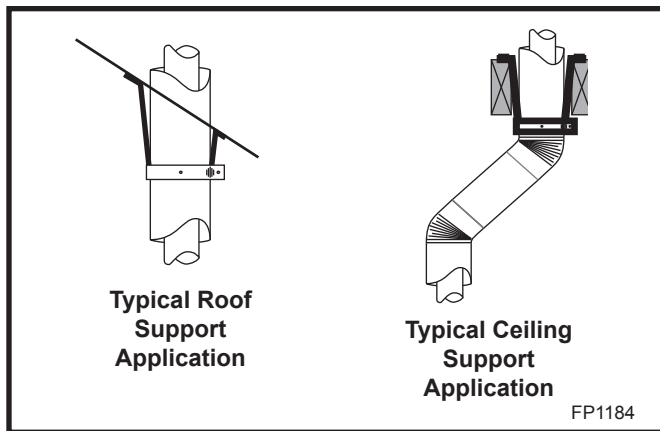
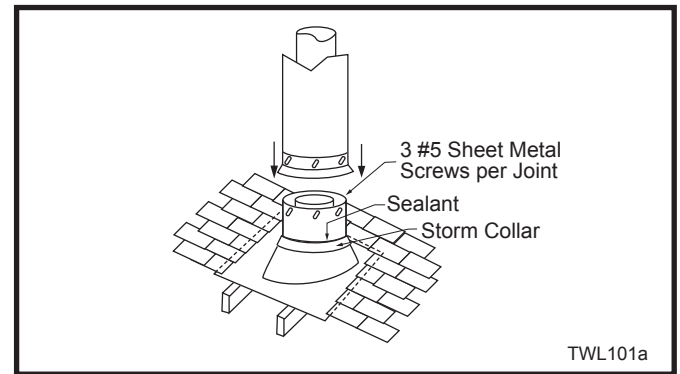

Fig. 44 Venting supports.
Fig. 46 Roof flashing.
- 7DVCS supports offsets. (Fig. 44) This application will require that you first determine the roof pitch and use the appropriate starter kit. (Refer to Venting Components List)
7. Install roof support (Fig. 44) and roof flashing making sure upper flange is below the shingles. (Fig. 46)
8. Install appropriate pipe sections until the venting is above the flashing. (Fig. 46)